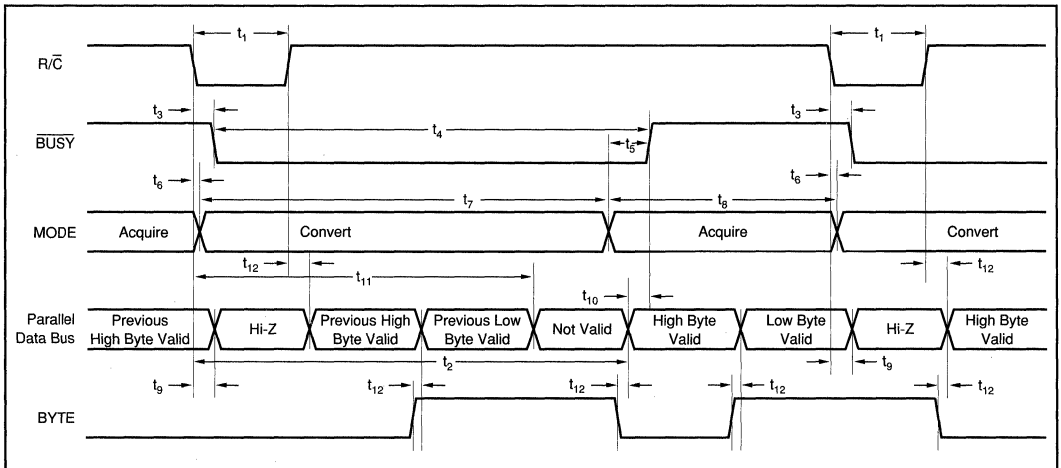

FIGURE 2. Conversion Timing with Parallel Output ($\overline{\text{CS}}$ and DATACLK tied LOW, $\overline{\text{EXT/INT}}$ tied HIGH).
The ADS7807 will begin tracking the input signal at the end of the conversion. Allowing 25 μ s between convert commands assures accurate acquisition of a new signal. Refer to Tables III and IV for a summary of \overline{CS} , R/\overline{C} , and \overline{BUSY} states and Figures 2 through 6 for timing diagrams.
NOTE: (1) See Figures 2 and 3 for constraints on data valid from conversion "n-1".
After conversion 'n' is completed and the output registers have been updated, $\overline{\text{BUSY}}$ (pin 24) will go HIGH. Valid data from conversion 'n' will be available on D7-D0 (pin 9-13 and 15-17). $\overline{\text{BUSY}}$ going high can be used to latch the data. Refer to Table VI and Figures 2 and 3 for timing constraints.
After conversion 'n' has been initiated, valid data from conversion 'n-1' can be read and will be valid up to $12\mu\text{s}$ after the start of conversion 'n'. Do not attempt to read data from $12\mu\text{s}$ after the start of conversion 'n' until $\overline{\text{BUSY}}$ (pin 24) goes HIGH; this may result in reading invalid data. Refer to Table VI and Figures 2 and 3 for timing constraints.